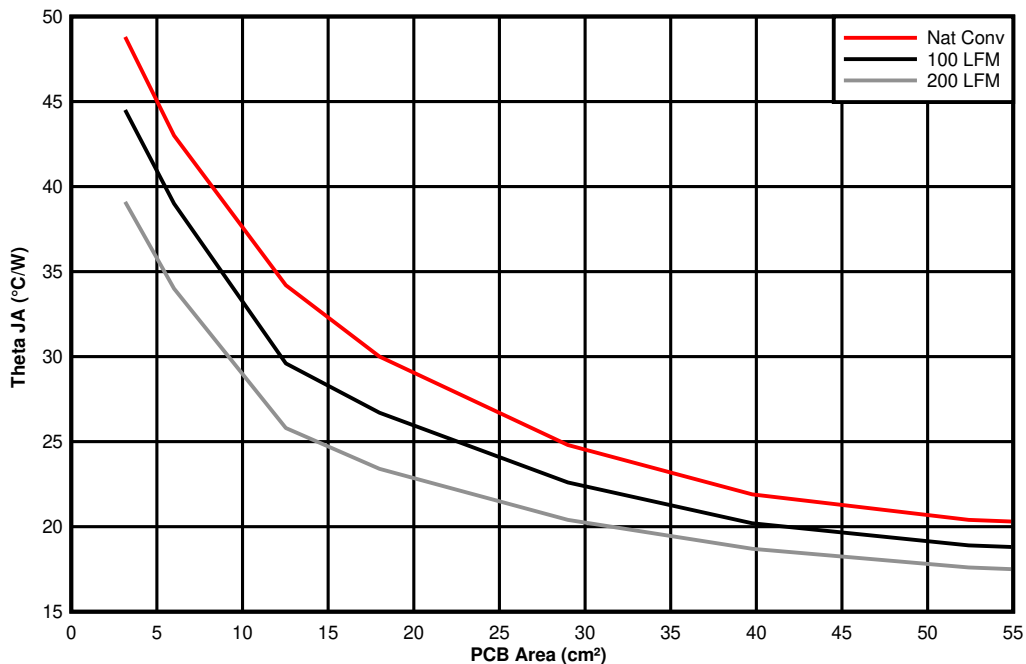

Figure 11-5.  $\theta_{JA}$  vs PCB Area
The amount of PCB copper as well as airflow effects the thermal performance of the device. Figure 11-5 shows the effects of copper area and airflow on the junction-to-ambient thermal resistance ( $R_{\theta JA}$ ) of the TPSM5601R5. The junction-to-ambient thermal resistance versus PCB area is plotted for a 4-layer PCB.
3. Reference Figure 11-5 to determine the minimum required PCB area for the application conditions.